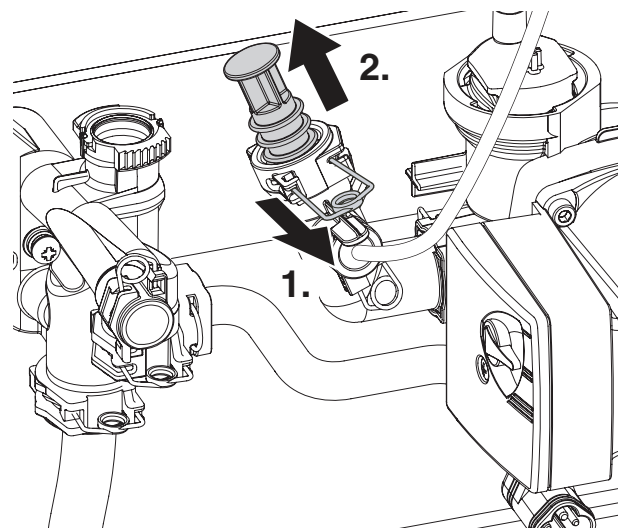

Fig. 30 Blanking plug
1. Refer to figure 30, release the retaining clip.